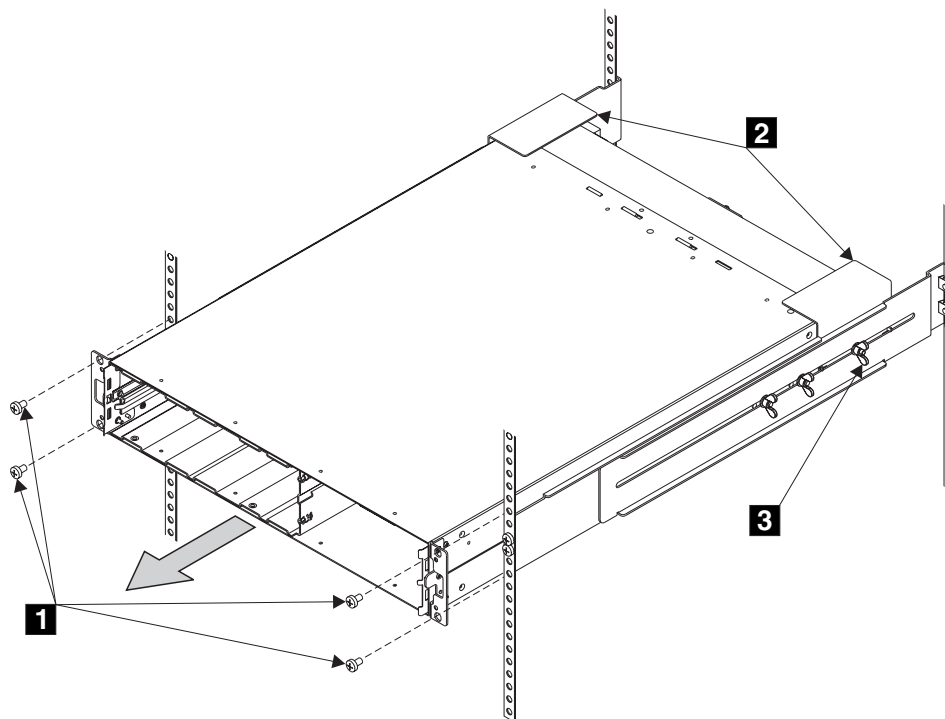

Figure 291. Removing the 2145 uninterruptible power supply
7. At the front of the 2145 uninterruptible power supply, unscrew the mounting screws (**1** in Figure 291 on page 617).